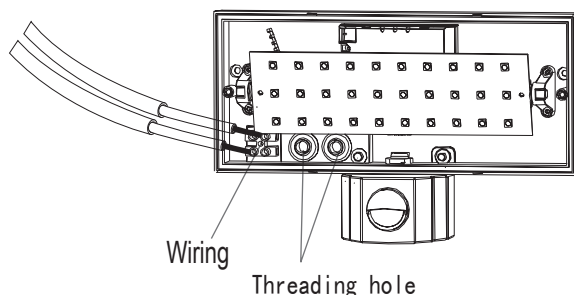

Fig.3
- Step3 Connect the cable to the lamp through the cable entry openings (as Fig.3)